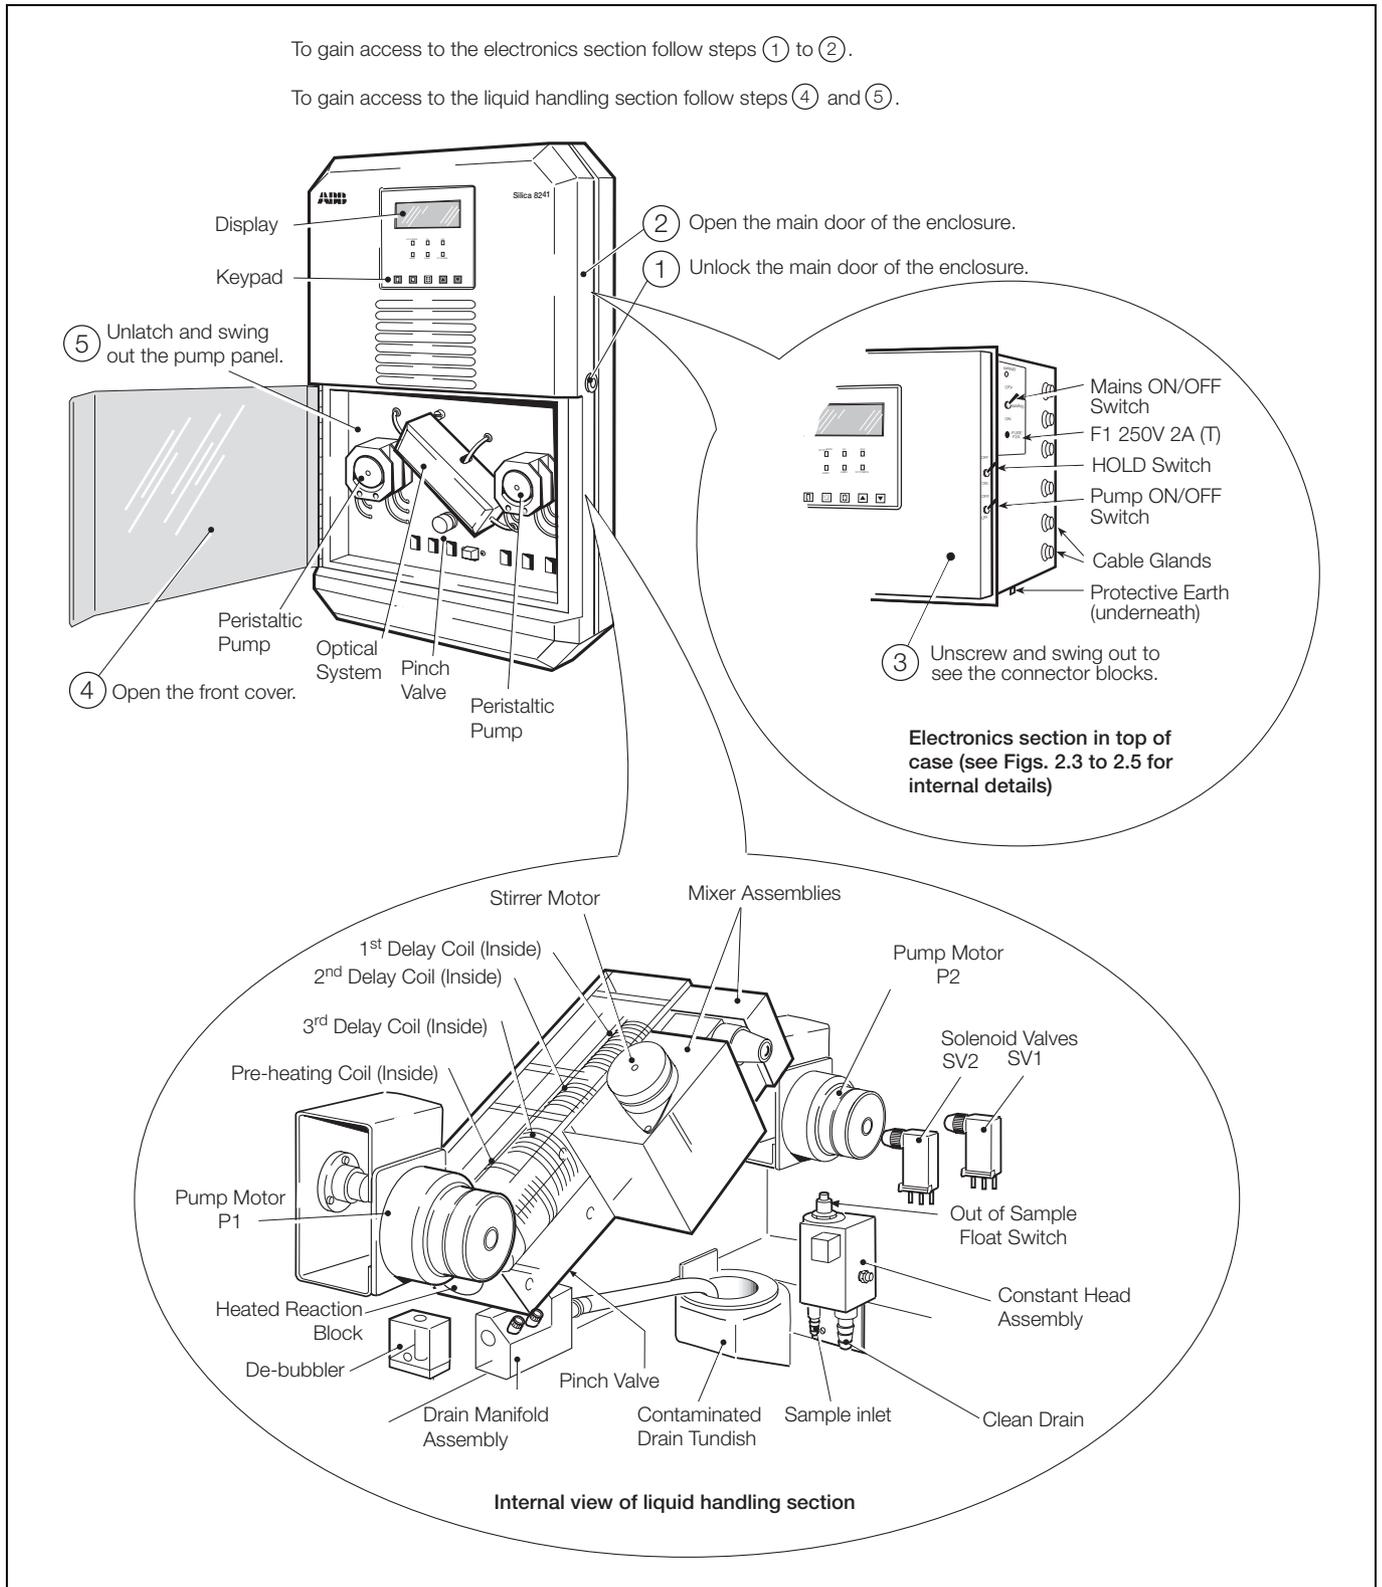

Fig. 1.1 Main Components
1.3 Location and Function of the Main Components – Fig. 1.1
- To gain access to the constant head assembly follow steps 1, 2, 4 and 5 in Fig. 1.1.
Note. Before proceeding any further, ensure that the HOLD switch is ON; all other switches are set to OFF on the right hand side of the electronics unit – see Fig. 1.1.